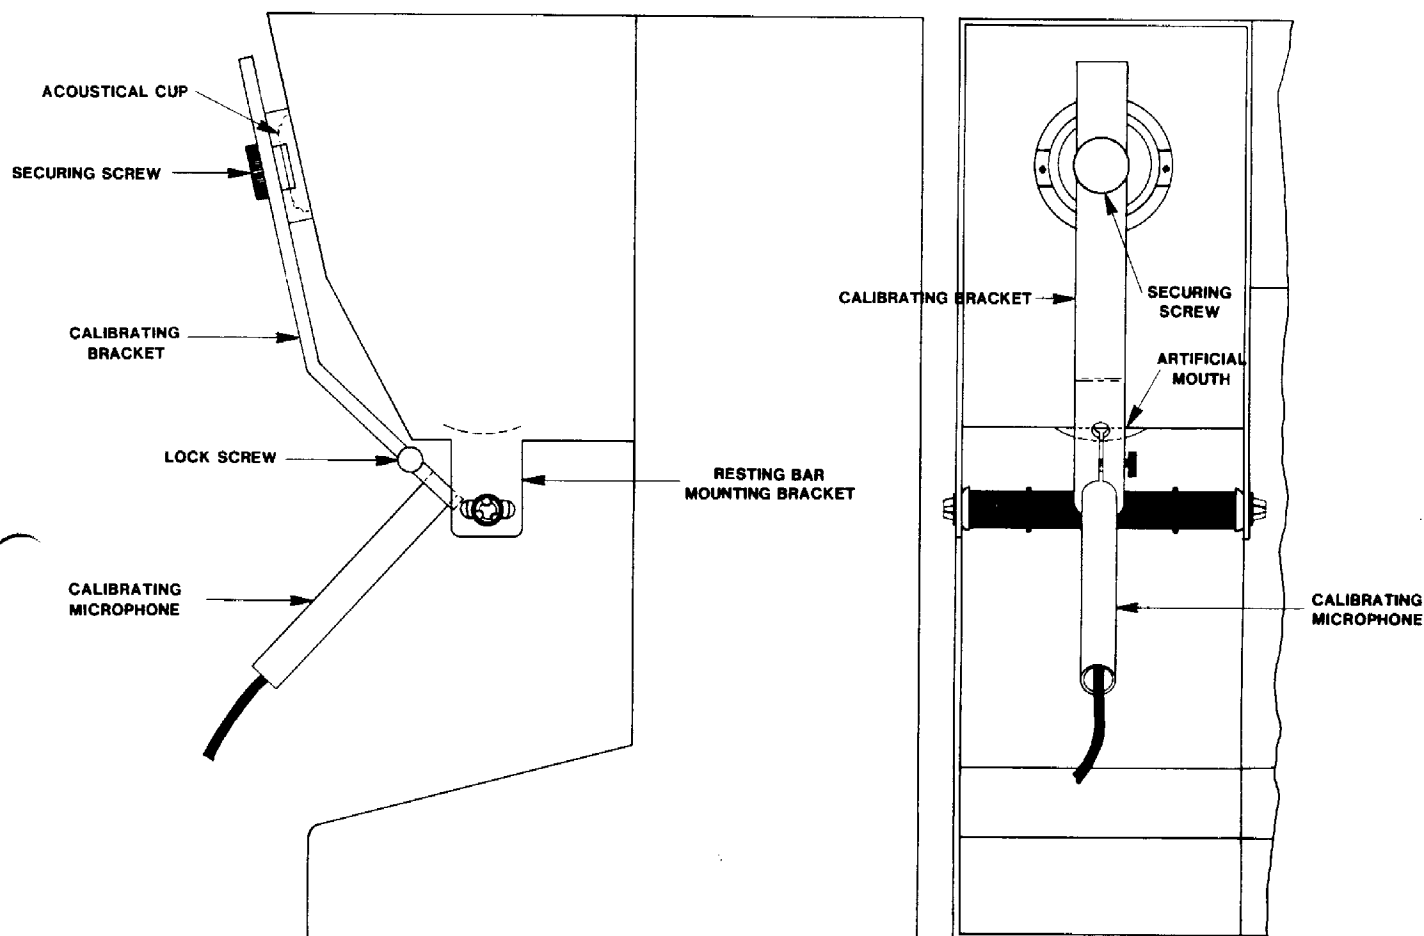

Figure 7. Equipment Set-Up for 'Ear' and 'Mouth' Calibration.
5.10.5 Mount the microphone in the 352004 Calibration Bracket so that the grill of the microphone is flush with the fixture surface. Tighten the lockscrew. See Figure 7.
the artificial mouth, then tighten the securing screw to lock the bracket in position. Center the calibrating microphone between the resting bar mounting brackets. See Figure 7.